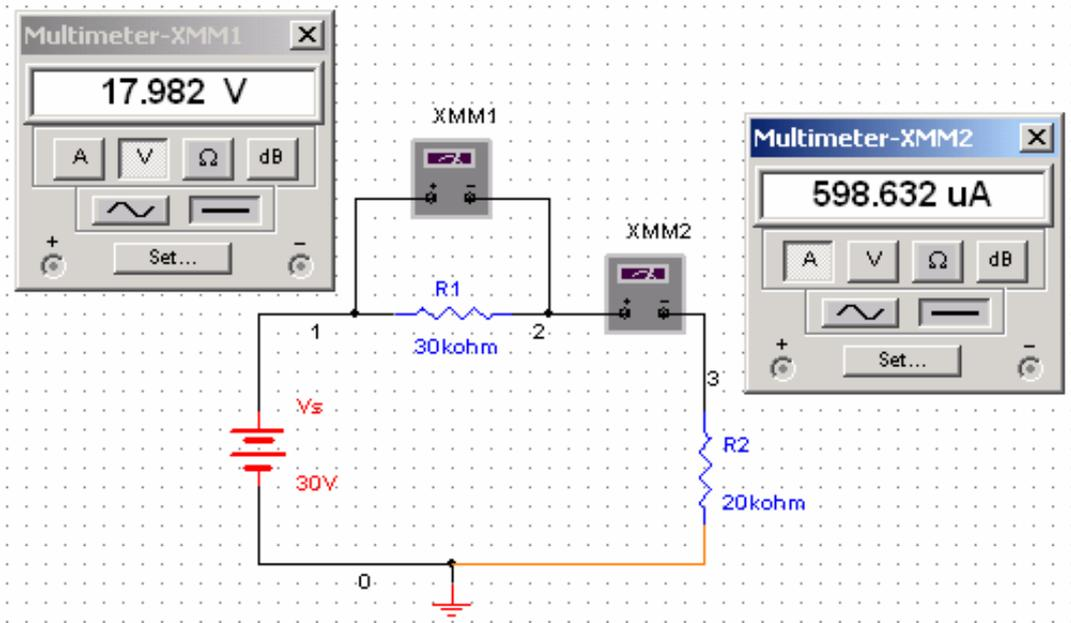

Figure 17: Simulation result
3. If the properties window is not open, double click the multimeters. Click to '1' position (ON) of the simulation switch to start simulation. Results will appear in the properties window of Multimeter. Compare your result with those in Figure 17 and show them to your instructor.